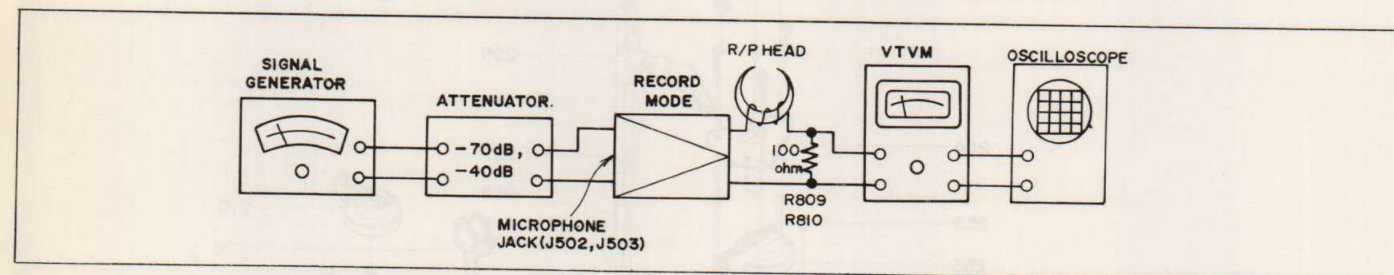

Figure 33
■ **ALC CHARACTERISTIC ADJUSTMENT** (Refer to Figure 33)
3. As shown in figure 33, connect the VTVM across 100 ohm resistors (R809, R810).